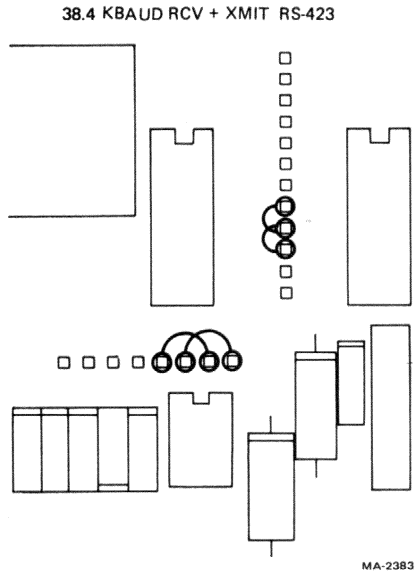

Figure 4-21 Factory Wiring
The baud rates may be set independently for transmission and reception, or both can operate together. Simply connect the pin with the desired baud value to either the XMIT or RCV pins or both. Figure 4-20 illustrates the pin locations, and Figure 4-21 the factory-wired configuration.
This section lists the switch or jumper configurations recommended for DIGITAL's asynchronous serial interface modules. These modules connect the LSI-11 QBus or the PDP-11 UNIBUS to the TU58's serial interface. Each module is configured to run at the fastest speed possible (either 9600 or 38400 baud), at the standard bus address (176500) and vector (300) for the TU58. For other speeds or addresses, read the manual for the specific interface. And for TU58 configuration, see Figures 4-21 and 4-22. The interface requirements are as follows.